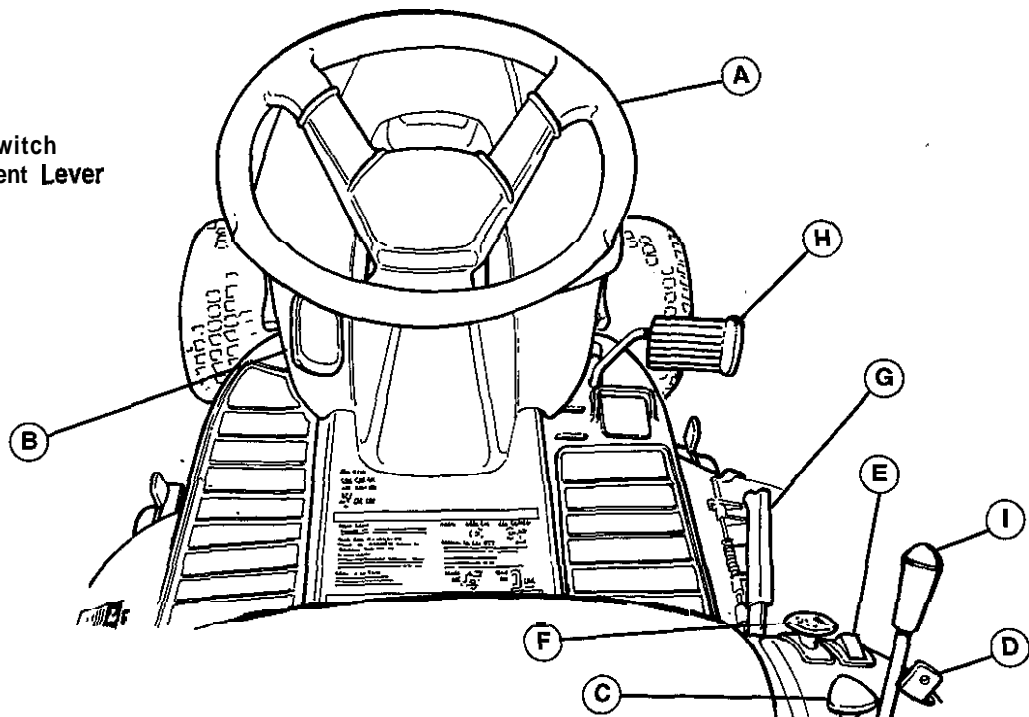

Figure 2. Tractor & Mower Controls - Gear Model
**On gear model**, depressing the pedal (H, Figure 2) halfway disengages the transmission drive. Depressing pedal further applies the tractor brake.
**On gear models**, put the gear selector (I, Figure 2) in neutral.
**On gear model**, ground speed is selected by fully depressing the clutch/brake pedal, then moving the gear selector (I, Figure 2) to the appropriate position. Most mowing is done in 3rd gear with engine speed at full throttle. If the terrain is rough, hilly, or sloping, use first or second gear. If the grass is wet or over three inches (76mm) high, use full engine speed with low gear so the mower will have enough power to cut the grass. Shift gears only with tractor stopped and clutch/brake pedal fully depressed.
On **gear model**, fully depress clutch/brake pedal (H, Figure 2) to release the parking brake and disengage the clutch. Use the gear selector (I, Figure 2) to select the gear best suited for conditions, then slowly release clutch/brake pedal to engage clutch and start tractor in motion.
On **gear model**, press the clutch/brake pedal (H, Figure 2) down only far enough to disengage the clutch to make a gradual stop. For a more rapid stop, press pedal down fully to apply the brake.